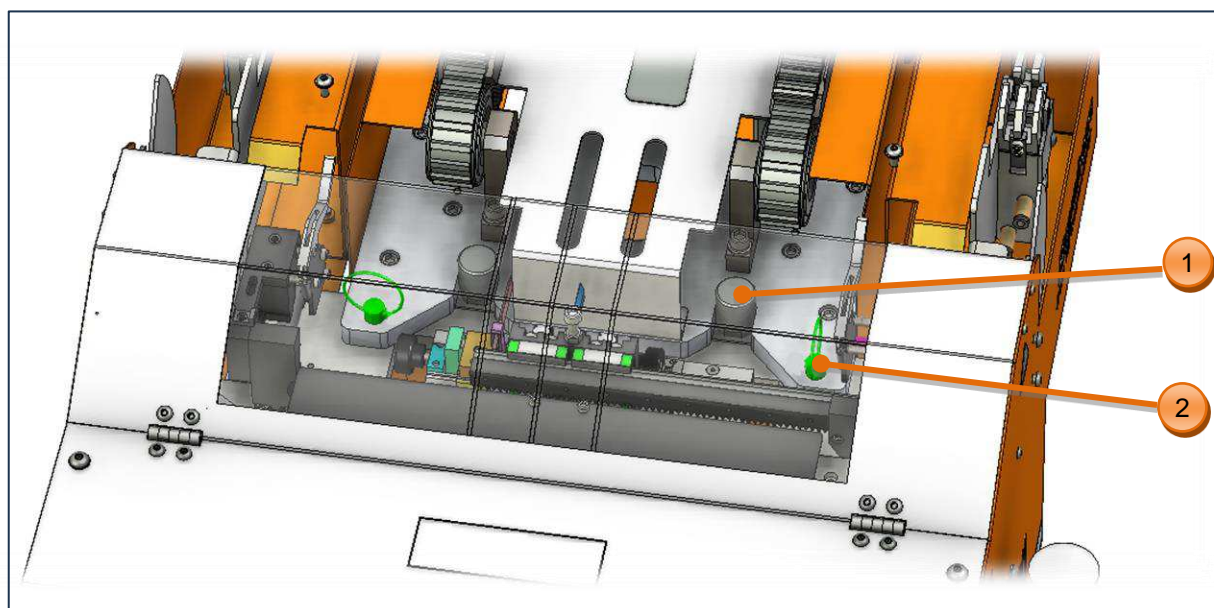

Figure 61: CD connect interface
- Refer to Figure 61, assemble CD onto machine front and fix it by 2X alignment pins.